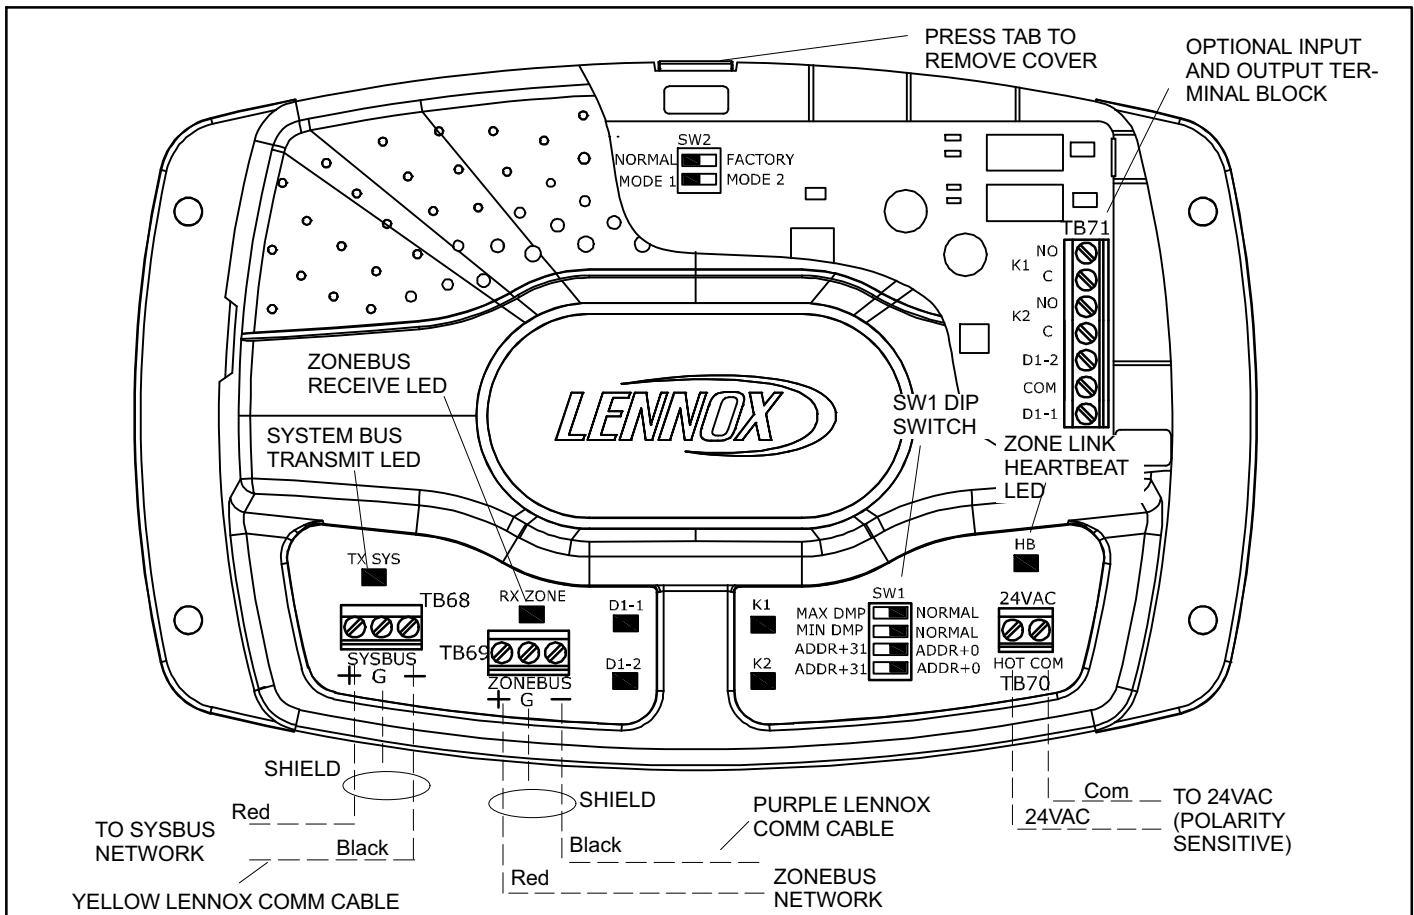
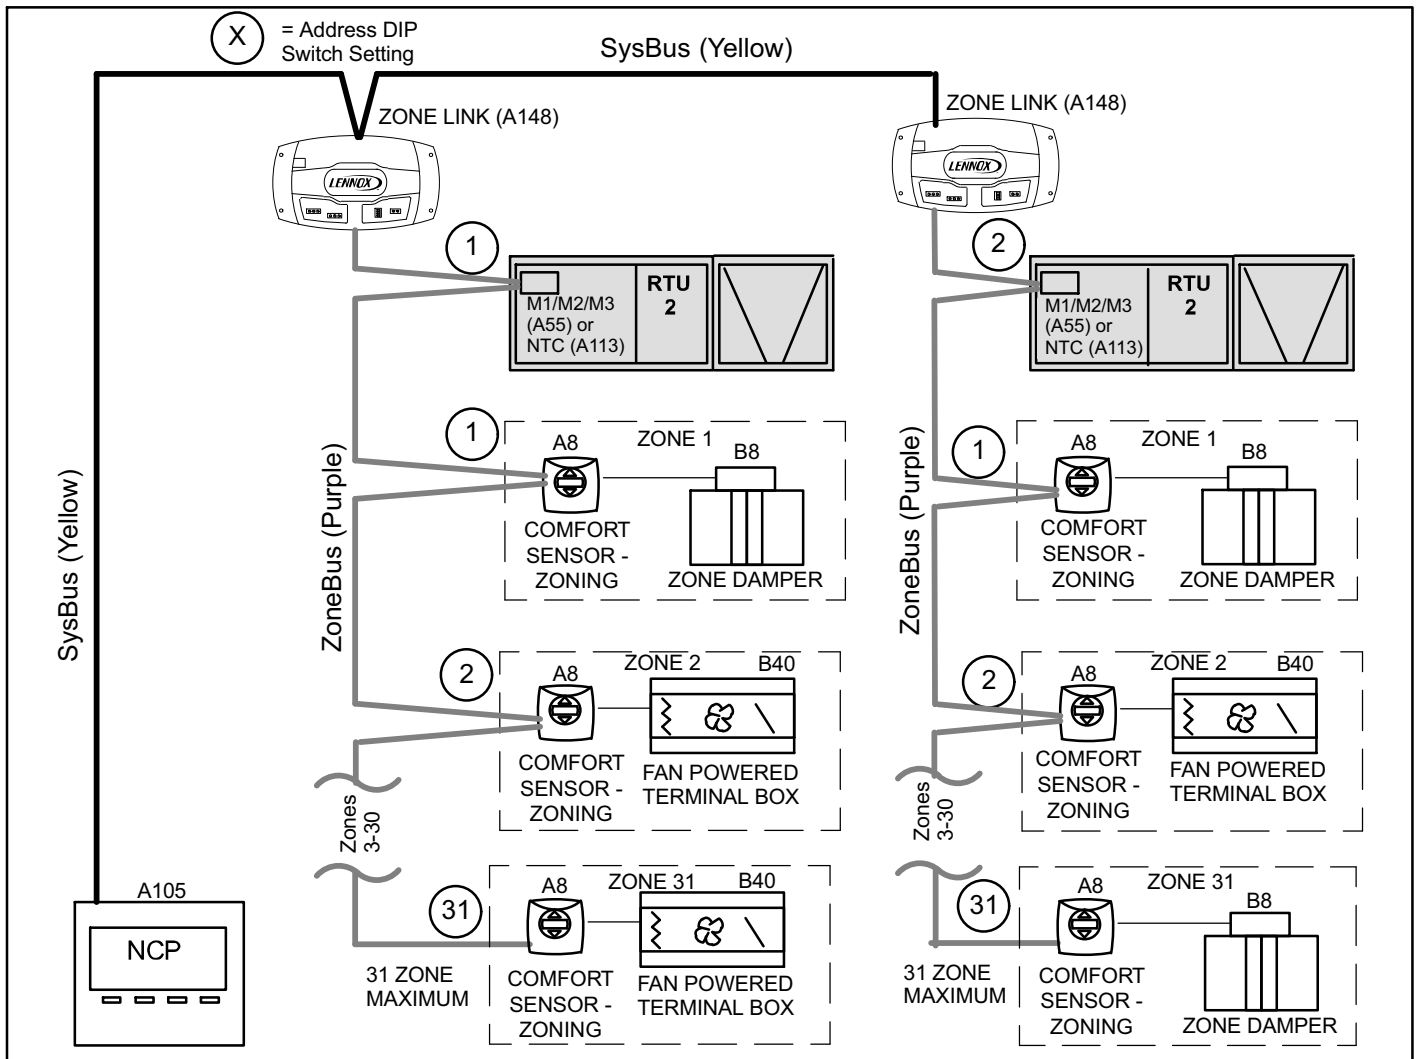

Figure 4. Zone Link Wire Connections (A148)
Figure 5. Example of a Zoning Network
2. Connect 24VAC to terminal block on Zone Link as shown in figure 4.
3. Connect SysBus and ZoneBus communication cable to the Zone Link as shown in figure 4. Figure 5 shows an example of a zoning network with typical addresses.
Optional 24VAC inputs and outputs are located on TB71 under the Zone Link cover. Press downward on the tab on top of the Zone Link to open the cover. See figure 4.